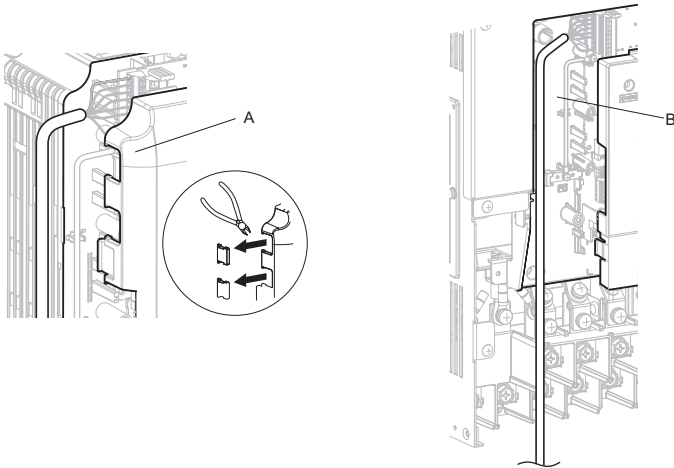

Figure 9 Wire Routing Examples
7. Route the option wiring inside the enclosure as shown in Figure 9-B. Take proper precautions so that the front covers will easily fit back onto the drive. Users may also choose to route the option wiring through openings on the front cover of some models. Remove the perforated tabs on the left side of the front cover as shown in Figure 9-A to create the necessary openings on these models. Refer to the Peripheral Devices & Options section of the drive instruction manual for more information.